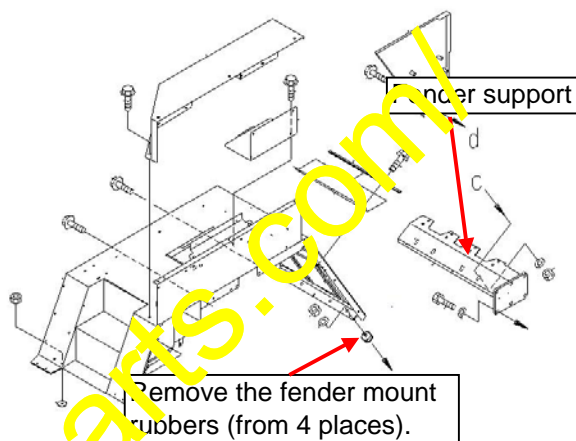
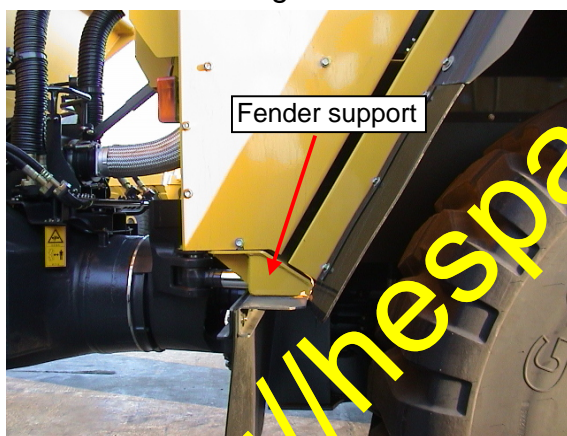
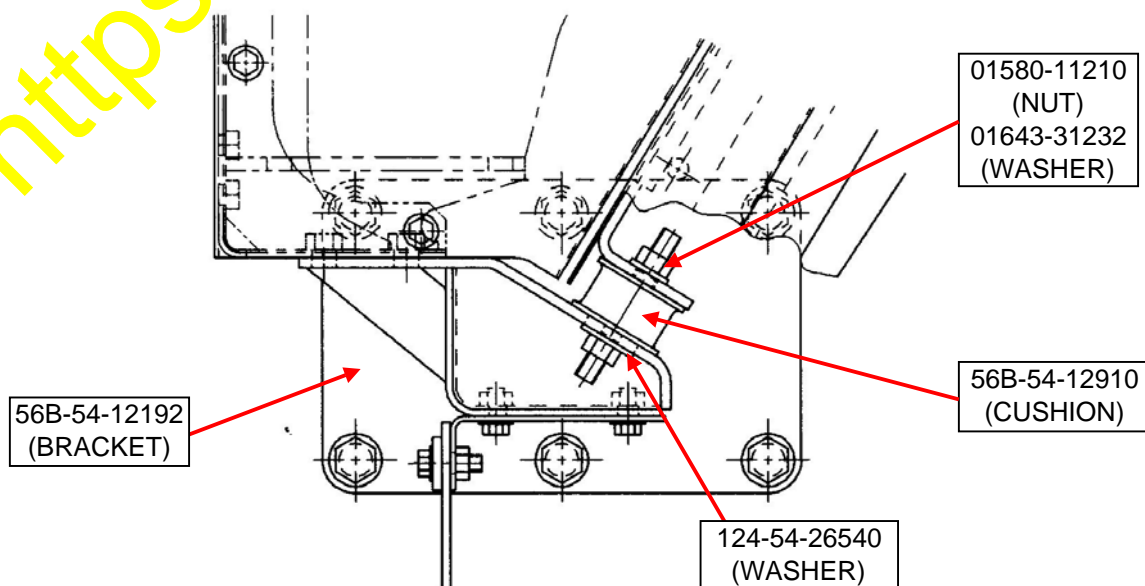

Fig. 8
Fig. 9
Fig. 10: Removing parts
- 3-6. Remove the fender mount rubbers. (Refer to Fig. 8 and Fig. 10.)
- 3-7. Remove the fender support. (Refer to Fig. 8, Fig. 9 and Fig. 10.)